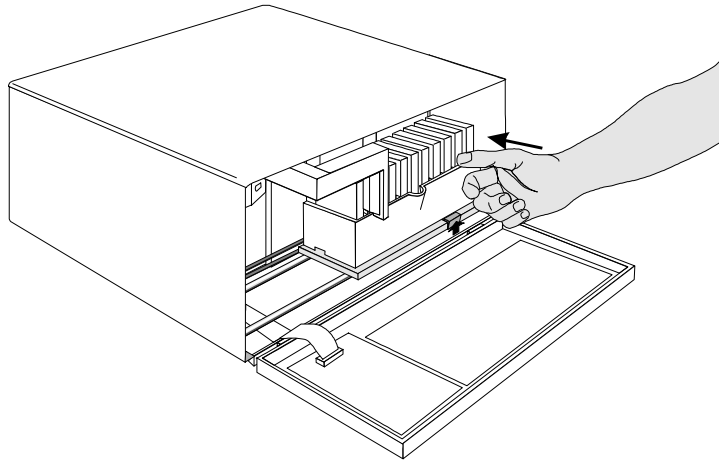

Figure 11. Pushing the Magazine in Place
- ❑ Push the right side of the magazine over the right hand magazine position pin until you hear a click. See figure 11.